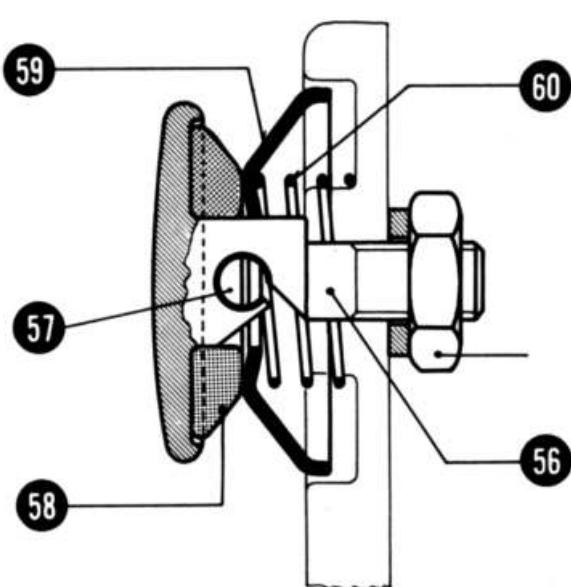

Fig. 14
7. Assembly of the pre-tension to the top thread tension (Fig. 14)
A by-pass ring (Fig. 14 a) will be used instead of the old pre-tension (Fig. 14). Place the sewing thread in this loop and in the cross slit of the top thread tension.
Fig. 14 a